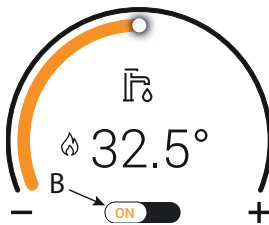
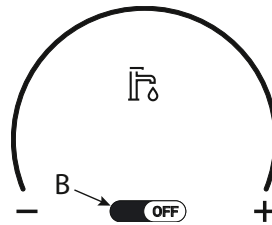

fig. 2- DHW function active
fig. 3- DHW function not active
By touching the control "B" (fig. 2 and fig. 3) it is possible to enable (ON) or disable (OFF) DHW. Disabling DHW also automatically inhibits the heating function.